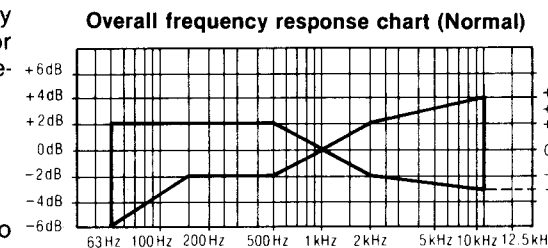
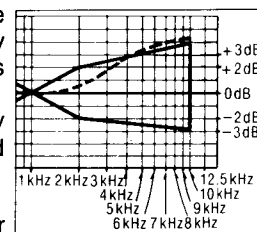
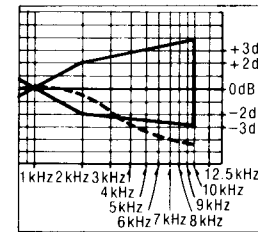

Fig. 10
Fig. 12
Fig. 13
6. Playback the signals recorded in step 6, and check if the frequency response curve is within the limits shown in the overall frequency response chart for normal tapes (fig. 10). (If the curve is within the charted specifications, proceed to steps 7, 8 and 9.) If the curve is not within the charted specifications, adjust as follows;
When the curve exceeds the overall specified frequency response chart (fig. 10) as shown in fig. 12.
- 2) Repeat steps 5 and 6 for confirmation (Proceed to steps 7, 8 and 9 if the curve is now within the charted specifications as shown fig. 10.)
- 3) If the curve still exceeds the specifications (fig. 10), increase bias current further and repeat steps 5 and 6.
When the curve falls below the overall specified frequency response chart (fig. 10) as shown in fig. 13.
- 3) If the curve still falls below the charted specifications (fig. 10), reduce bias current further and repeat steps 5 and 6.